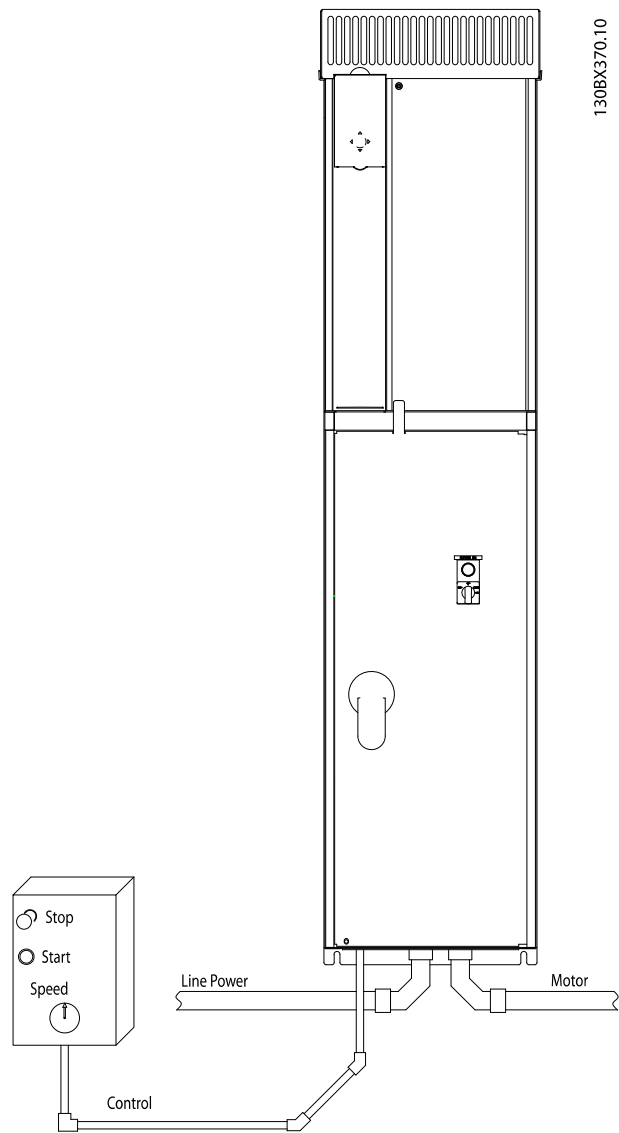

Figure 2.3 Example of Proper Electrical Installation Using Conduit
- Because the motor wiring carries high frequency current, it is important that wiring for mains, motor power, and control are run separately. Use metallic conduit or separated shielded wire. See Figure 2.3. Failure to isolate power, motor, and control wiring could result in less than optimum equipment performance.